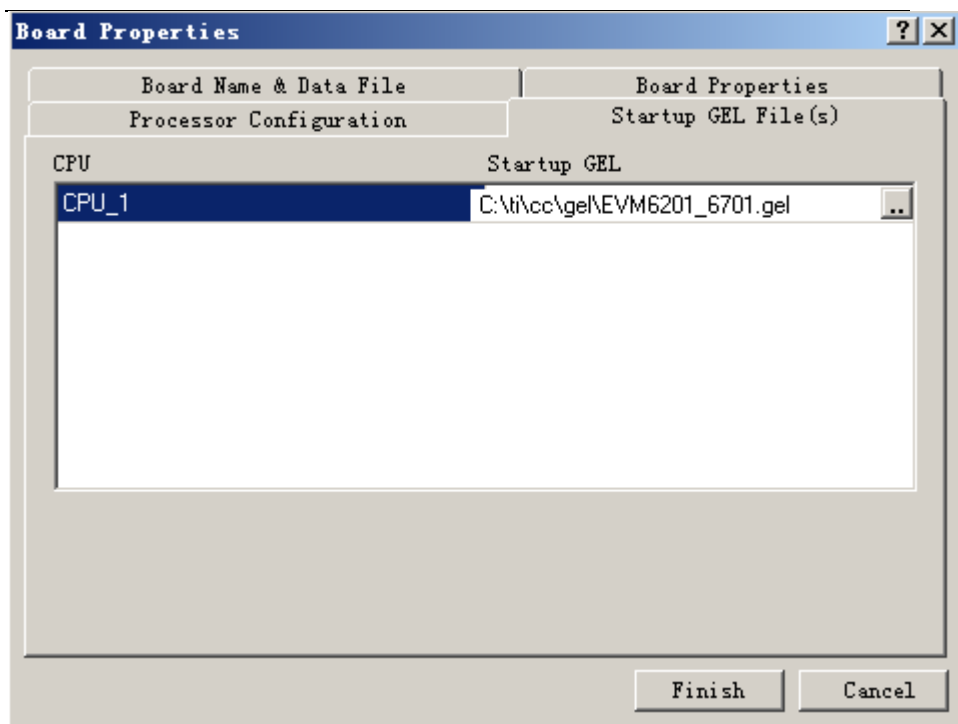

Figure C-6
- Click on “Next” will bring you to the “Startup GEL File(s)” page (Figure C-6). Click on the “” button to see a list of gel files. Choose the gel file that matches your target board. Click on “Finish”. (For some target board, if you don’t choose a gel file, it may cause error while loading program to CCS.)